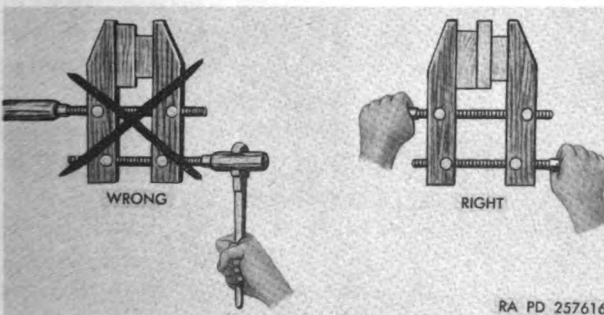

Figure 146. Using hand screw clamps—hand tightened.
g. Use hand pressure to tighten clamps; never use wrenches or bars (fig. 146).